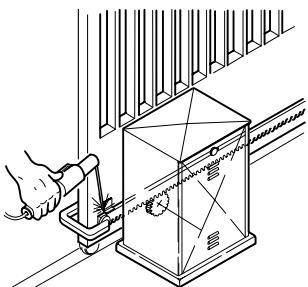

Fig. 11
- 2) Rest the first rack element level on the pinion and weld the support onto the gate as shown in fig. 11.